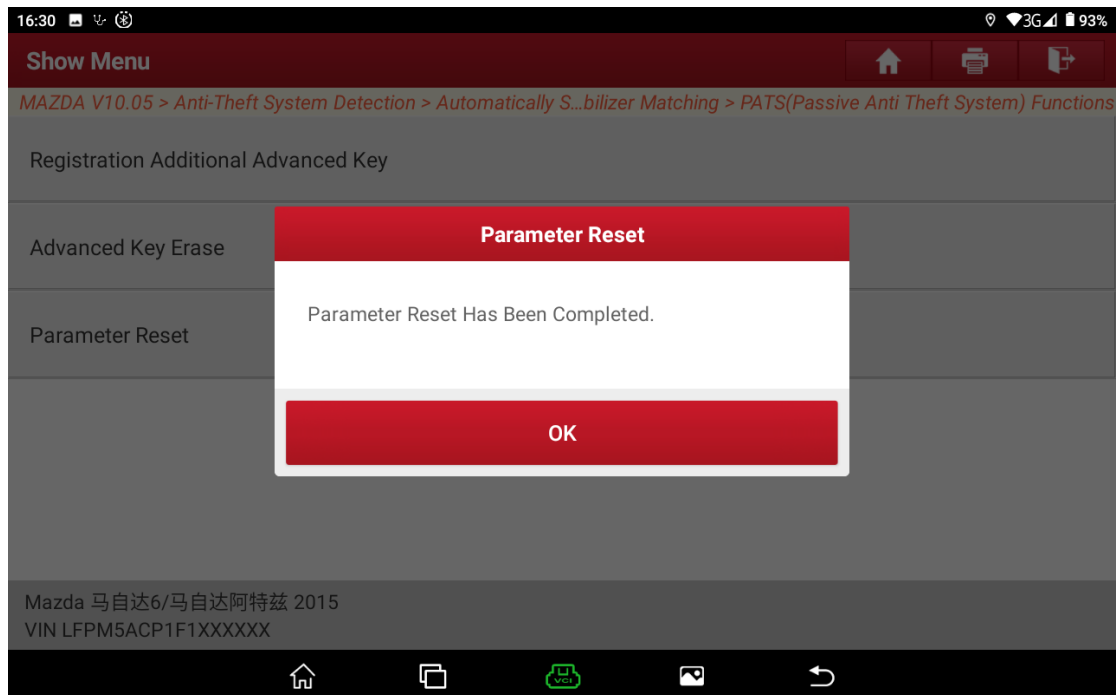

Figure 13
11. Execution is successful. See Figure 13.
11. The operation conditions are displayed. Choose [No] to exit the function, or choose [Yes] to access the next step. See Figure 13.